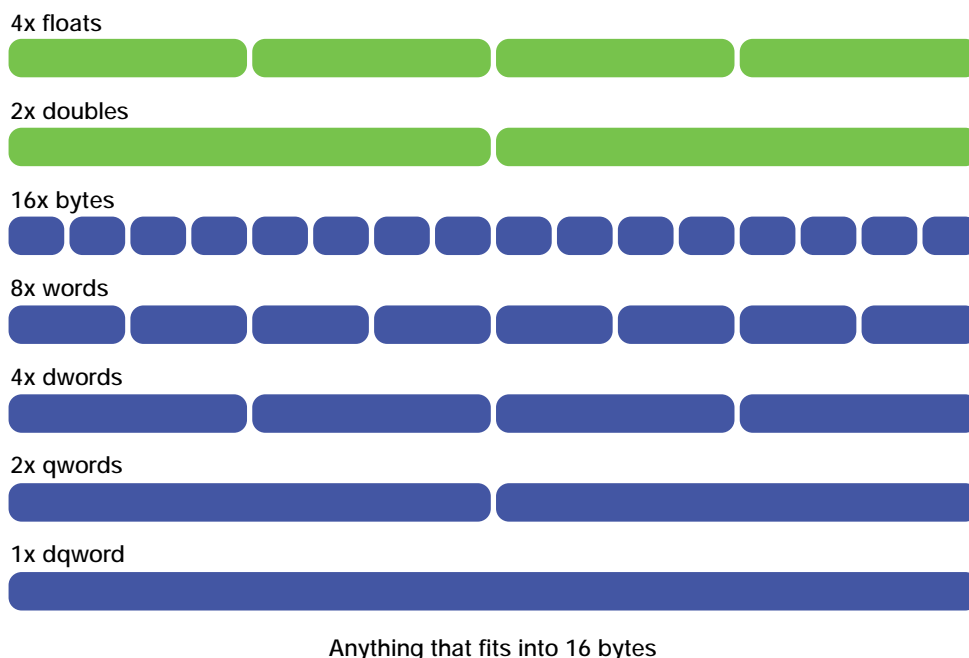

Figure 1. SSE/SSE2 data types
Reality: Intel SSE/SSE2 technology applies to elements of *all* standard data types, both floating-point (FP) and integer, that fit into 16-byte-wide SSE/SSE2 registers (Figure 1).